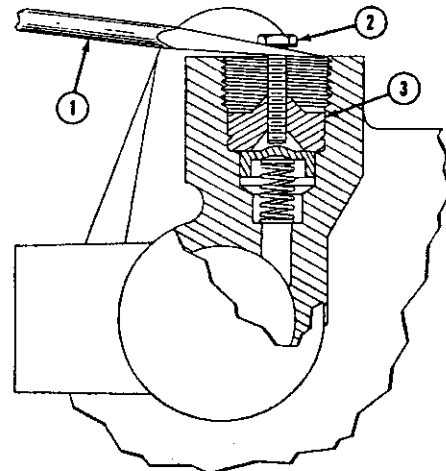

FIG. P-14—REMOVING TUBE SEATS
- d. The tube seats must be removed with the self-tapping screws supplied in the repair kit to permit removal of the check valves. Screw the self-tapping screws into the tube seats and place two screw driver tips under the screw head and force the screw upward as shown in Fig. P-14.